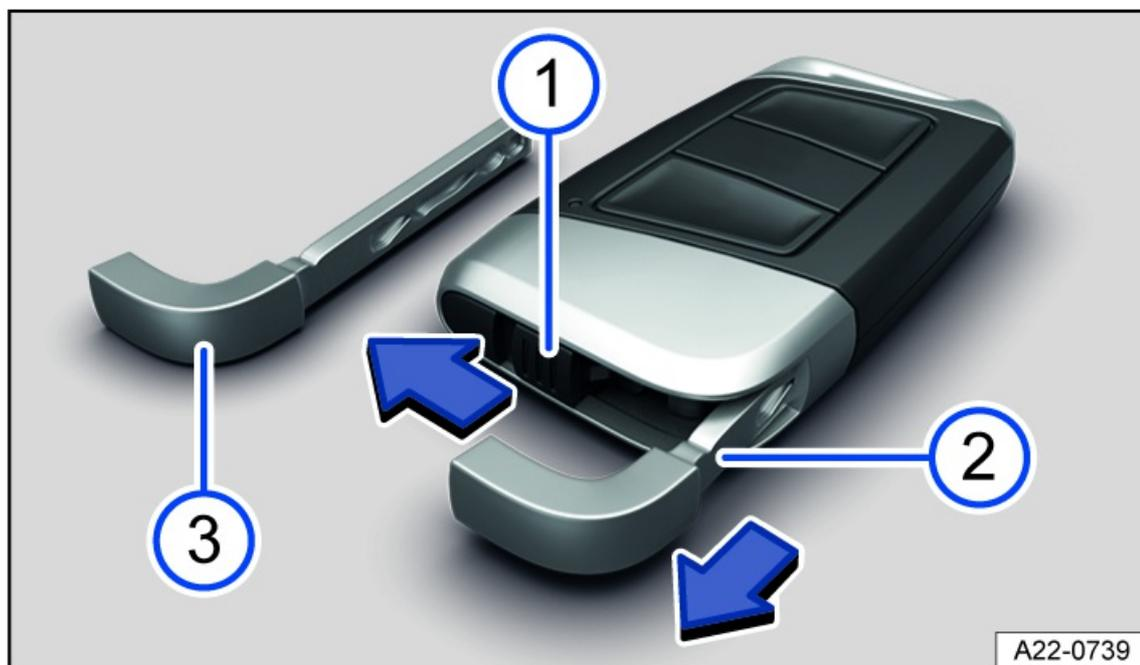

Fig. 46 Vehicle key: Unlocking the emergency key (general example).
- ① Push the locking mechanism in the direction of the arrow.
- ② Remove the emergency key in the direction of the arrow.
- ③ Emergency key.
There may be an emergency key *fig. 46* ③ located in the vehicle key that can be used to manually unlock and lock the vehicle.